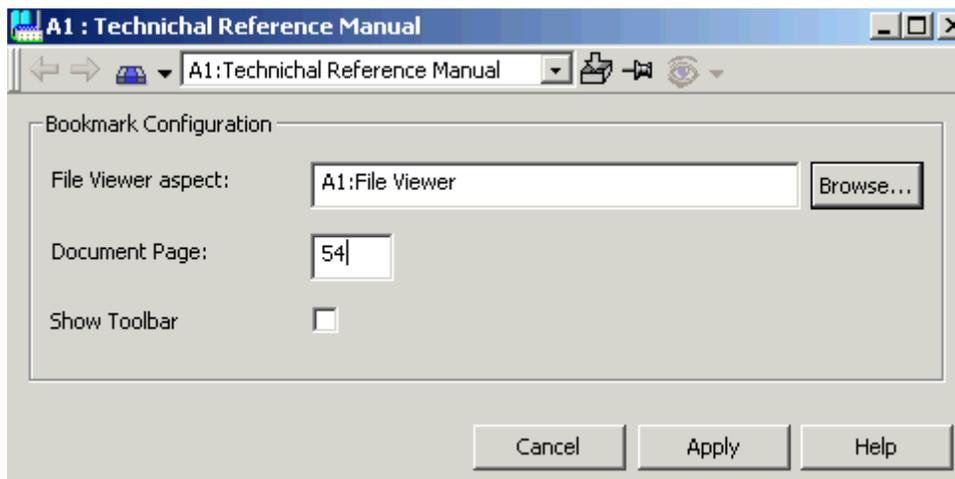

Figure 294. Technical Reference Manual - Chapter
3. Select the File Viewer aspect that contains the wanted document of the File Viewer aspect type, see Figure 294.